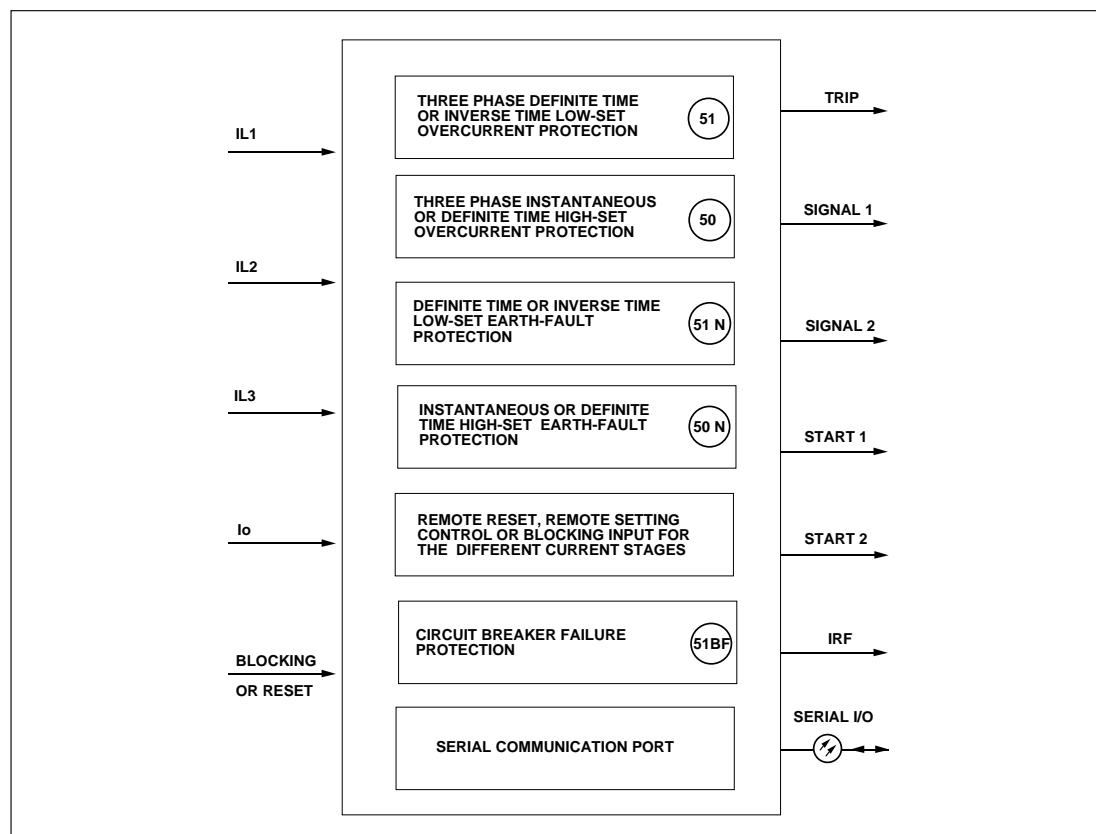

Fig. 1. Protection functions of the combined overcurrent and earth-fault relay type SPAJ 140 C.
- E) Shortly after the internal self-supervision system has detected a permanent relay fault the red IRF indicator is switched on and the output relay of the self-supervision system operates. Further, in most fault situations an autodiagnostic fault code is shown in the display. The fault code is composed of a red figure 1 and a green code number which indicates fault type. The fault code persists until the STEP/RESET push-button is pressed. When a fault code appears on the display, the code number should be recorded for statistical and maintenance purposes.